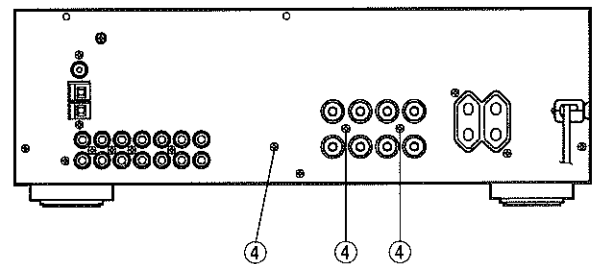

Fig. 2
b. Remove 3 screws (④) fixing the Speaker terminal and Heat Sink in Fig. 2.